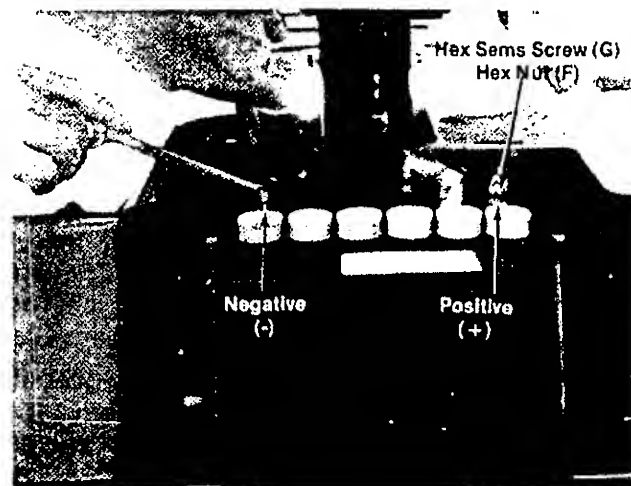

FIGURE 8.
4. Attach the positive cable (right hand side of rider) to the positive battery terminal with hex sems screw (G) and hex nut (F). See figure 8.
5. Attach the negative cable; grounded, to the negative battery terminal with hex sems screw (G) and hex nut (F). See figure 8.